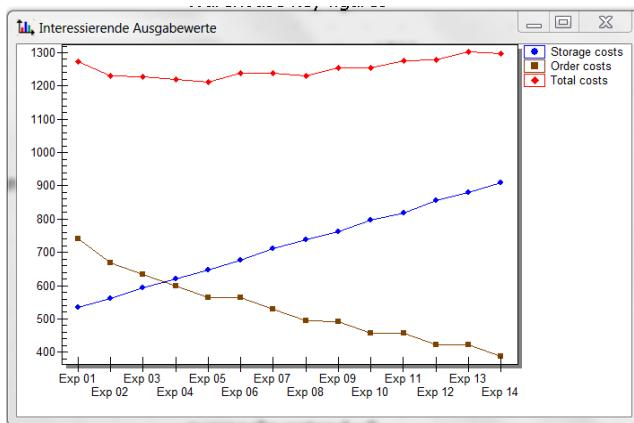

Fig. 8.32 Diagram for Economic Order Size
- Set in the EventController an end of 21 days (to simulate one month). After running the experiments, you should get a diagram like in Fig. 8.32.